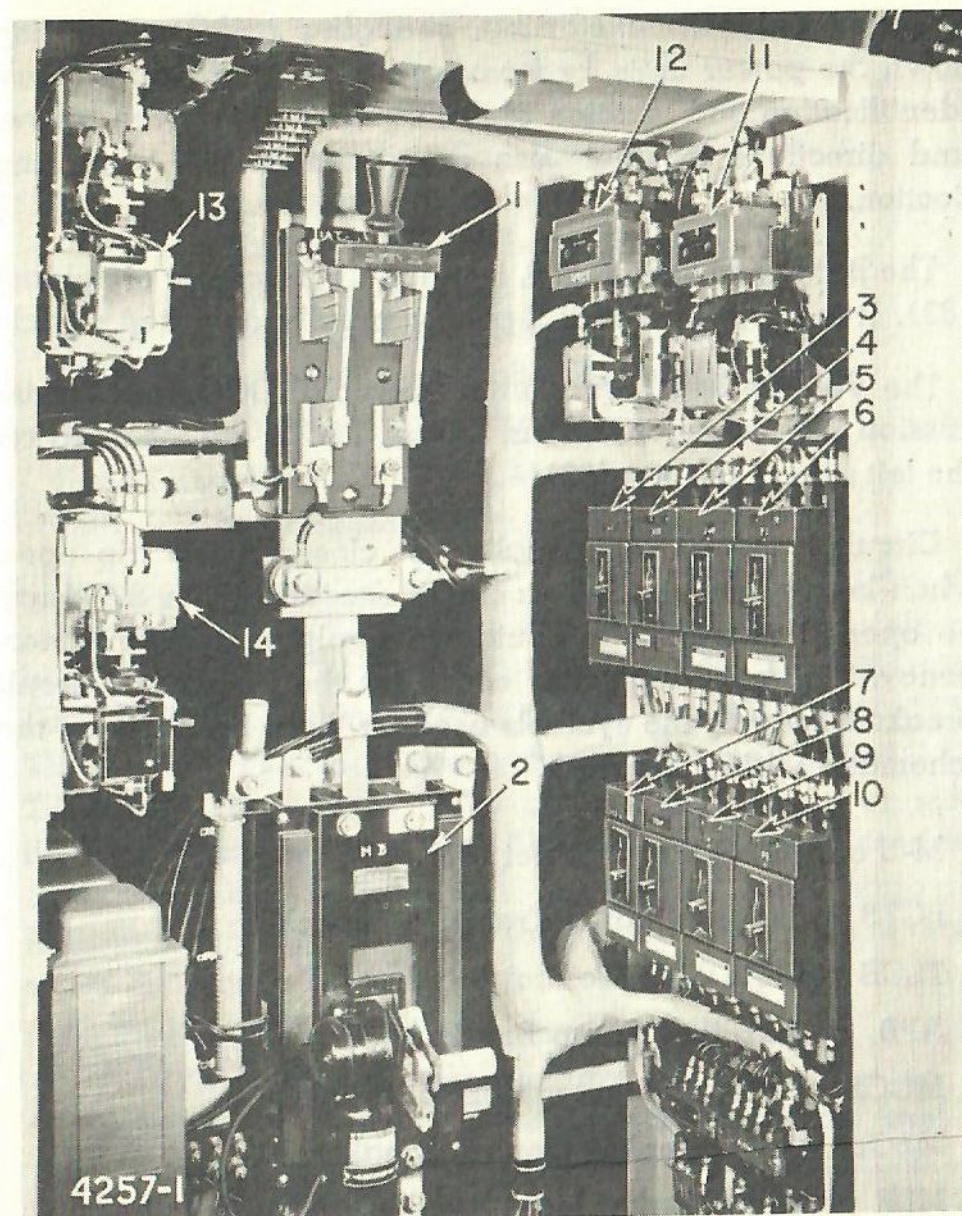

FIG. 4. ELECTRICAL EQUIPMENT CABINET
The **Battery Switch**, Fig. 4, is in the upper center of cabinet (83). It is a conventional 2-pole manually operated switch.